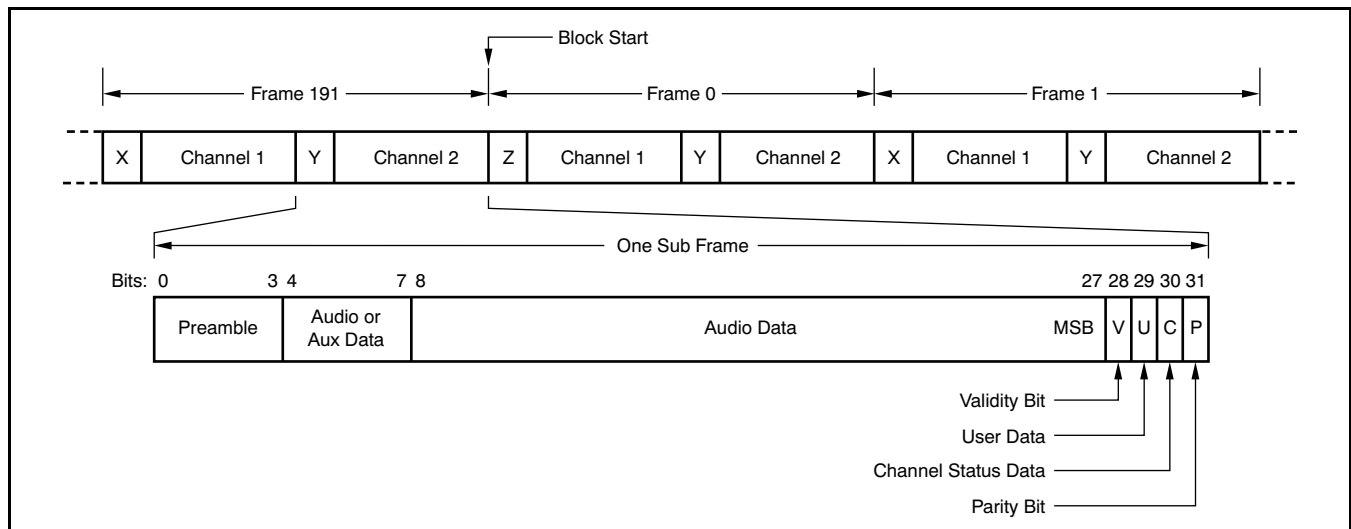

Figure 63. AES3 Frame and Subframe Encoding
For AES3 transmission, data is encoded into frames, with each frame containing two subframes of audio and status data, corresponding to audio Channels 1 and 2 (or Left and Right, respectively, for stereophonic audio). Figure 63 shows the AES3 frame and subframe formatting. Each subframe includes four bits for the preamble, up to 24 bits for audio and/or auxiliary data, one bit indicating data validity (V), one bit for channel status data (C), one bit for user data (U), and one bit for setting parity (P).
The 4-bit preamble is used for synchronization and identification of blocks and subframes. The X and Y preamble codes are used to identify the start of the Channel 1 and Channel 2 subframes, as shown in Figure 63. However, the X preamble for the first subframe of every 192 frames is replaced by the Z preamble, which identifies the start of a new block of channel status and user data.